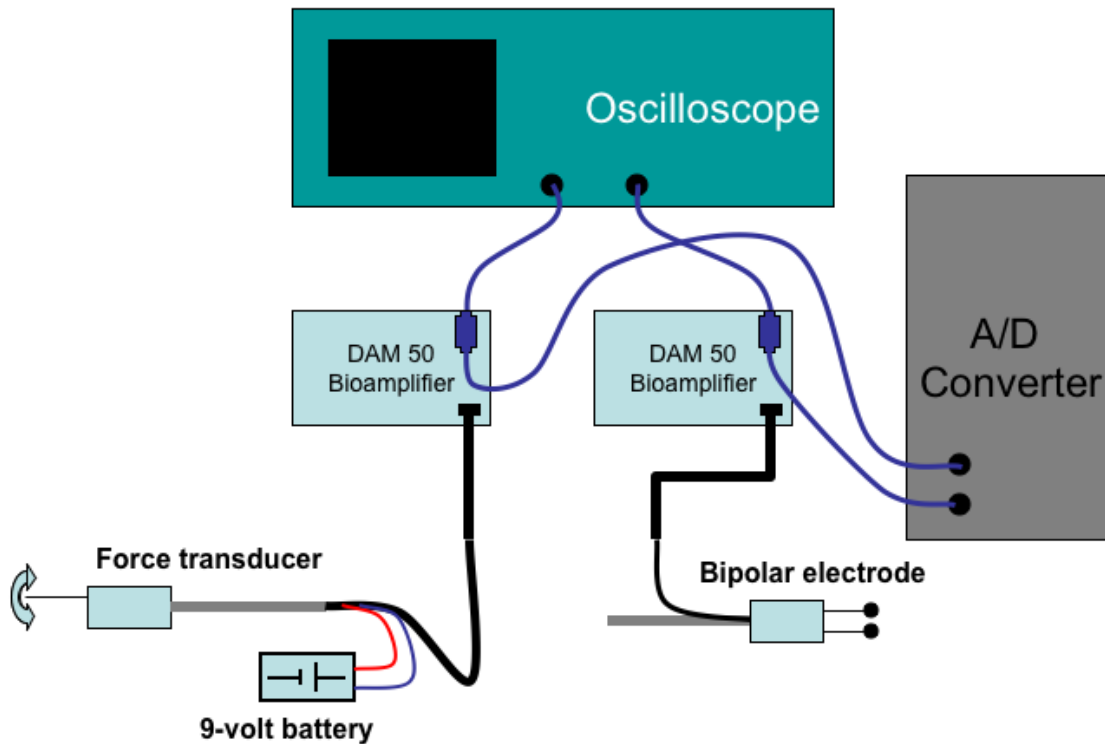

Figure 1: Circuit diagram for the recording of contraction and electrograms from the frog heart.
1. Setting up the measurement circuit according to Figure 1: